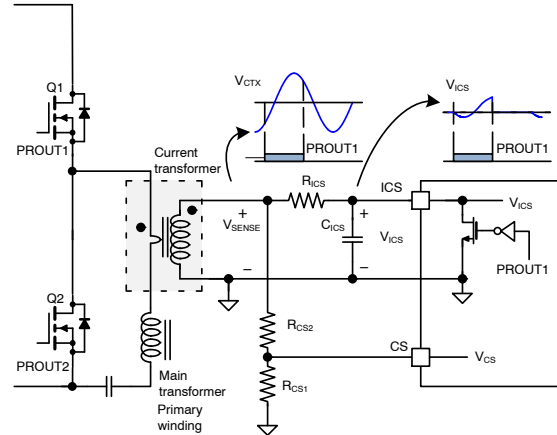
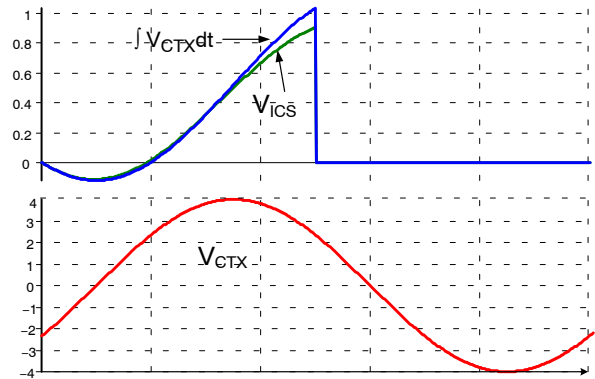

Figure 61. Current Sensing of NCP4390
Figure 62. Disable PWM mode with COMP Voltage
NCP4390 senses instantaneous switch current and the integral of the switch current as illustrated in Figure 61. Since NCP4390 is located in the secondary side, it is typical to use a current transformer for sensing the primary side current. While the PROUT1 is LOW, the ICS pin is clamped at 0 V with an internal reset MOSFET. Conversely, while PROUT1 is high, the ICS pin is not clamped and the integral capacitor ( $C_{ICS}$ ) is charged and discharged by the voltage difference between the sensing resistor voltage ( $V_{SENSE}$ ) and the ICS pin voltage. During normal operation, the voltage of the ICS pin is below 1.2 V since the power limit threshold is 1.2 V. The current sensing resistor and current transformer turns ratio should be designed such that the voltage across the current sensing resistor ( $V_{SENSE}$ ) is greater than 4 V at the full load condition. Therefore the current charging and discharging  $C_{ICS}$  should be almost proportional to the voltage across the current sensing resistor ( $V_{SENSE}$ ). Figure 62 compares the VICS signal and the ideal integral signal when the amplitude of  $V_{SENSE}$  is 4 V. As can be seen, there is about 10% error in the VICS signal compared to the ideal integral signal, which is acceptable for most designs. If more accuracy of the VICS is required, the amplitude of  $V_{SENSE}$  should be increased.
2. Over-Current Protection (OCP2): When  $V_{CS}$  is higher than 3.5 V or lower than -3.5 V, over-current protection (OCP2) is triggered. The instantaneous primary side current is also sensed on CS pin. Since the OCP2 thresholds on the CS pin are 3.5 V and -3.5 V as shown in Figure 66, the CS signal is typically obtained from  $V_{SENSE}$  by using a voltage divider as illustrated in Figure 61. 150 ns debounce time is also added for OCP2